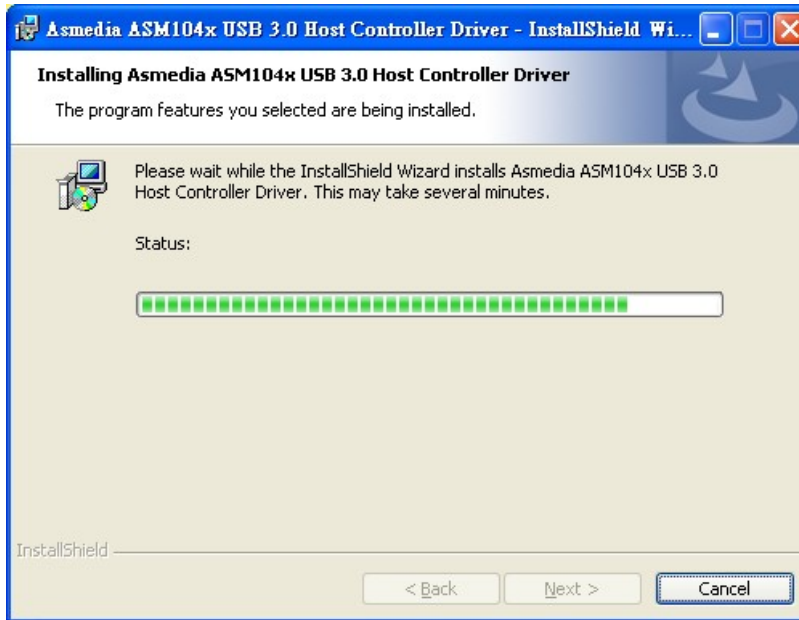

Figure 6-25: USB 3.0 Driver Installation Screen
Step 9: The **Install** screen appears and displays the progress of the installation (Figure 6-25).